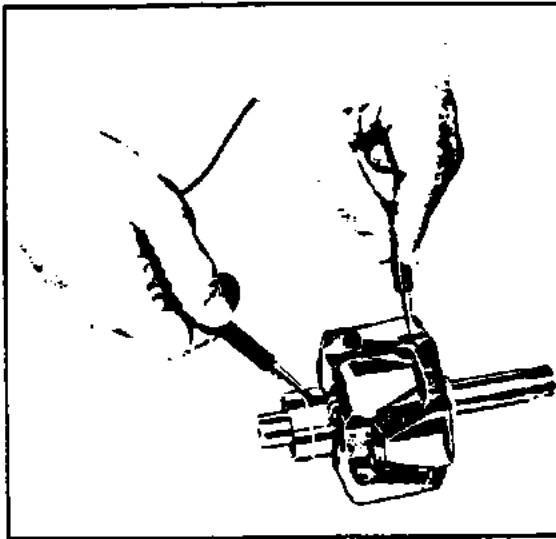
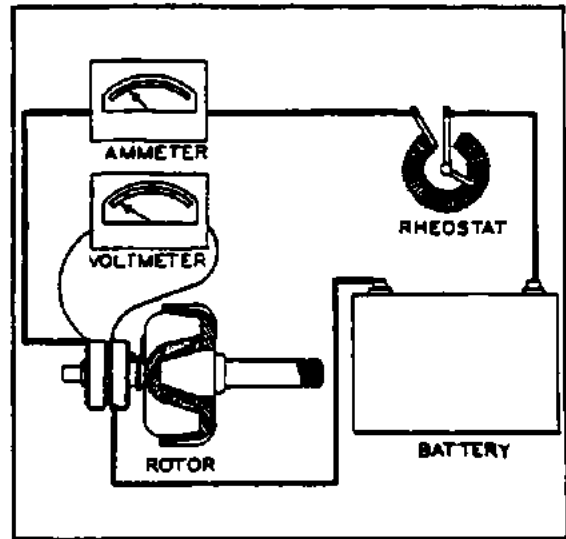

Figure 11-26. Testing Rotor For Grounds
Figure 11-27. Testing Rotor For Shorts
a. **Rotor:** The rotor should be tested for grounded or shorted windings. The ground test can be made with test probes, connected in series with a 110-volt test lamp, an ohmmeter or any type of continuity tester. (Refer to Figure 11-26.) There must not be any continuity between the slip rings and the rotor shaft or poles. To test for shorted turns in the rotor winding, connect a voltmeter, ammeter and rheostat as shown in Figure 11-27, or use an ohmmeter. Rotor current draw and resistance are listed in the individual specification pages. Excessive current draw or a low ohmmeter reading indicates shorted windings. No current draw or an infinite ohmmeter reading would indicate an open winding.